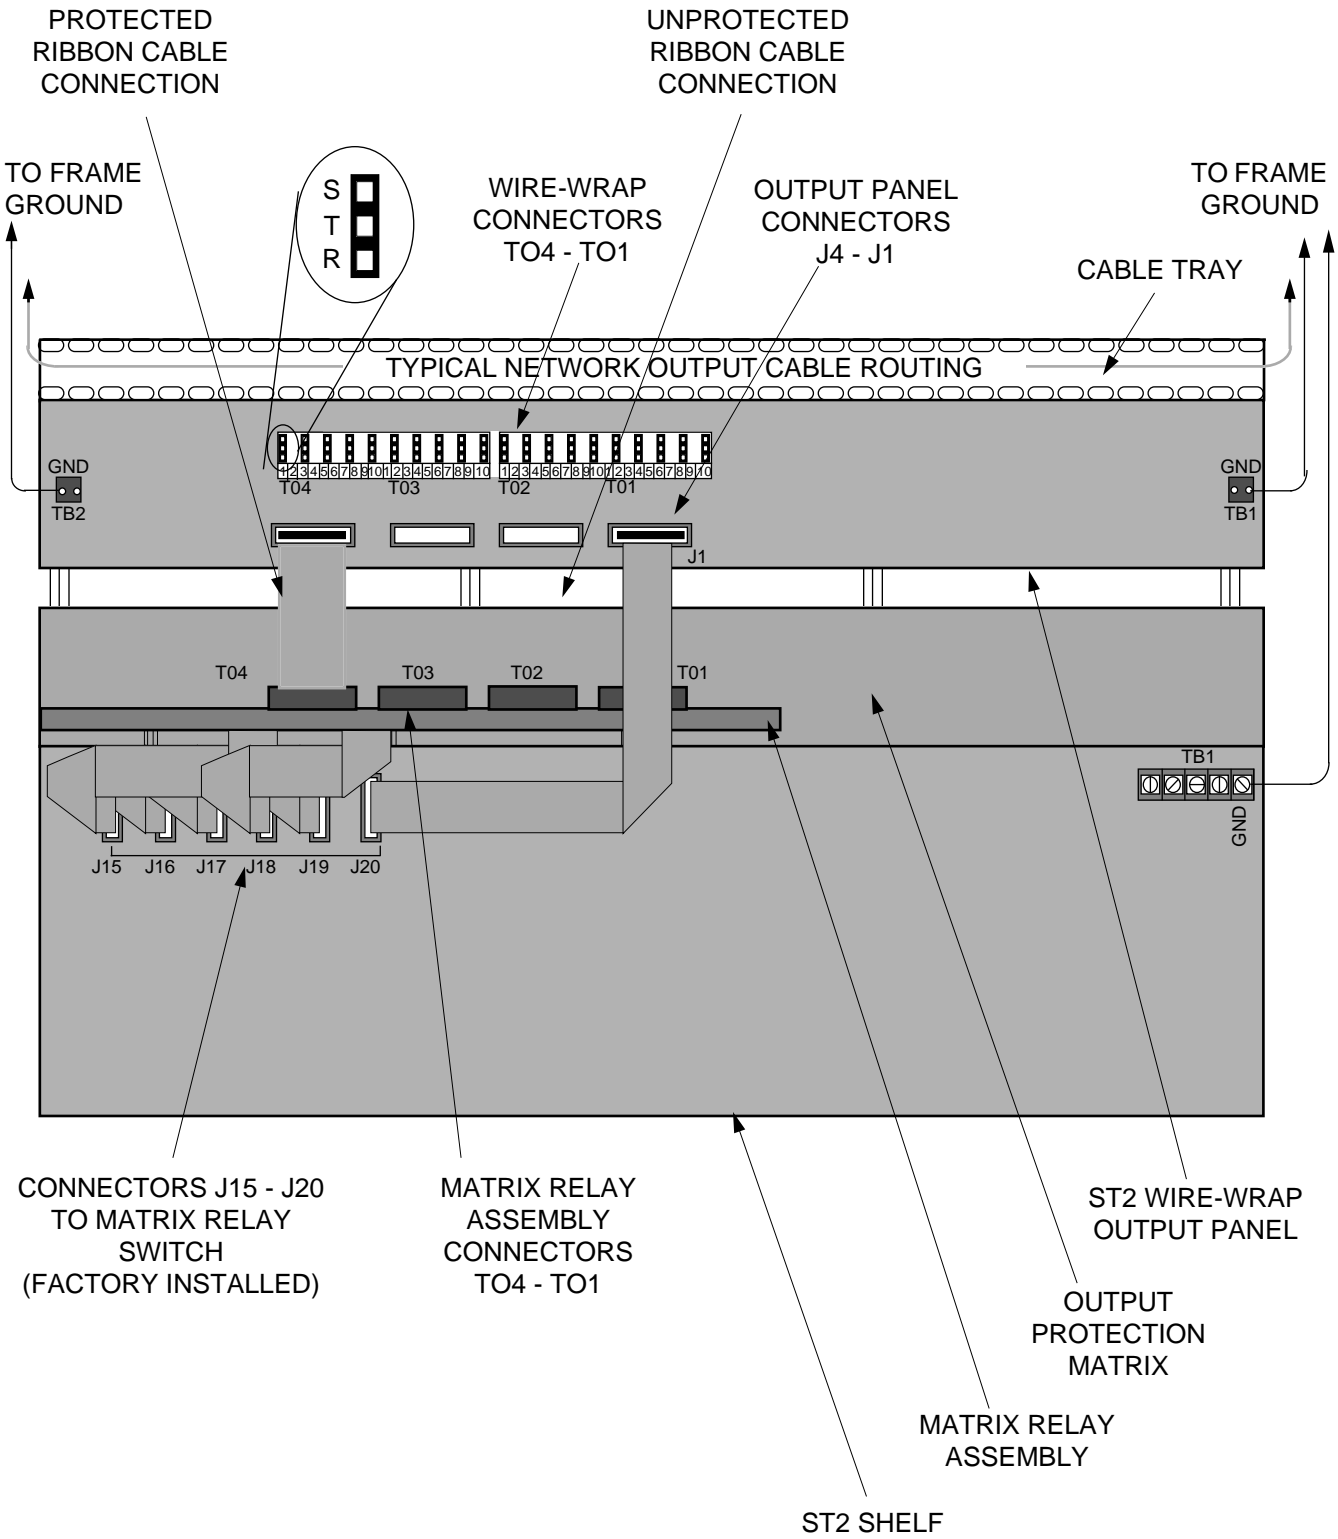
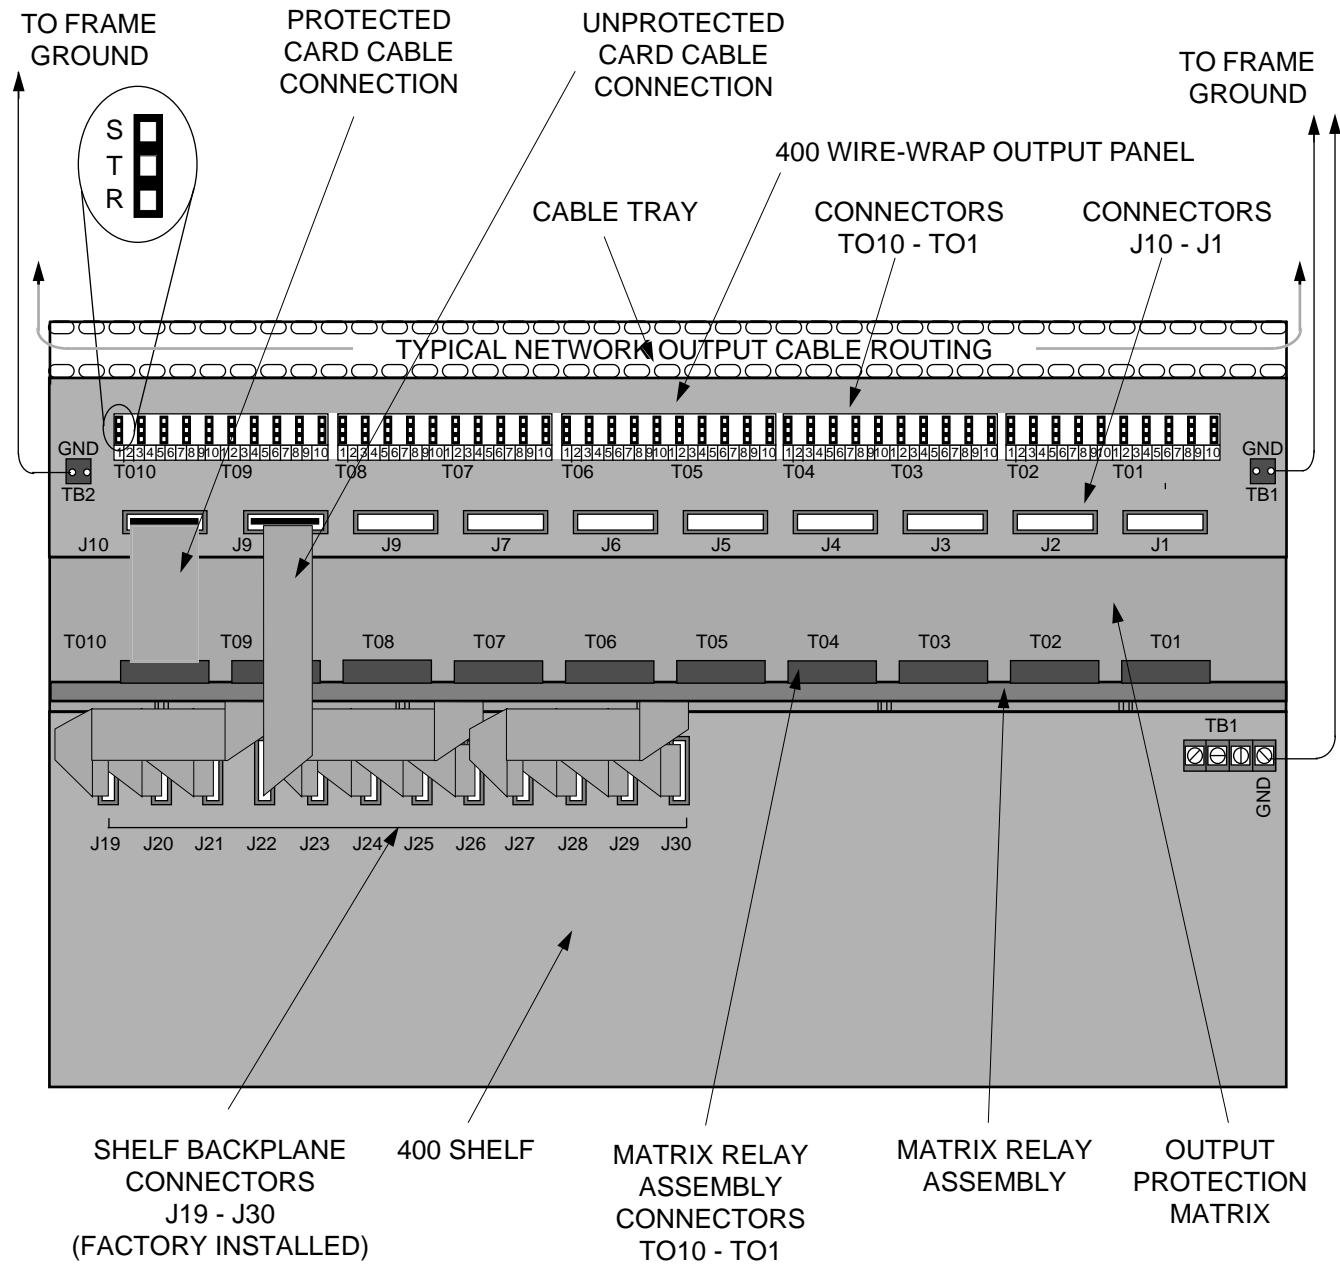
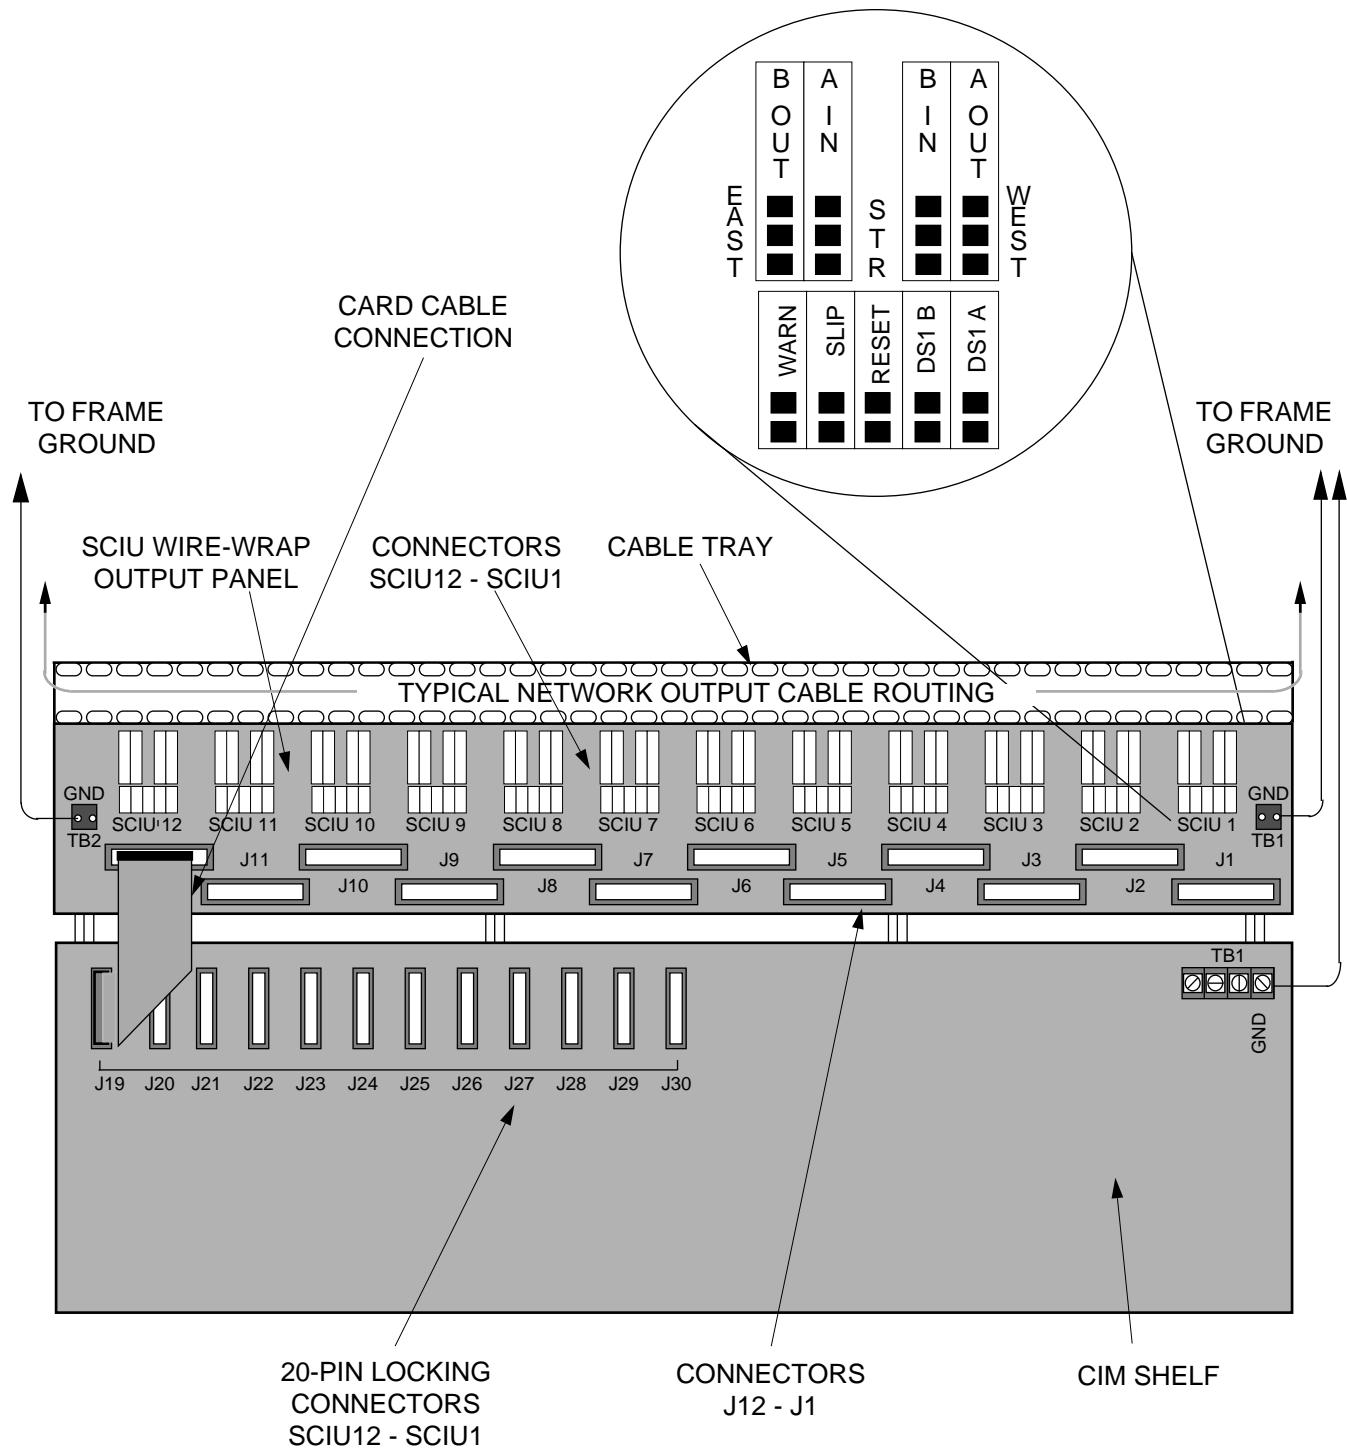

Figure 4. ST2 Wire-wrap Output Panel Cabling (Rear View)
Figure 5. 400 Wire-wrap Output Panel Cabling (Rear View)
Figure 6. CIM Wire-wrap Output Panel Cabling (Rear View)
- a. **ST2 Shelf:** If using protected cards (TOxA), connect TO1 through TO4 on the rear of the Matrix Relay Assembly to J1 through J4 on the rear of the output panel as appropriate (Figure 4 and Table A).
If using unprotected cards (SCIU or TOxA), remove and tag existing ribbon cables from J15 to J20 on the shelf backplane and connect new ribbon cables directly to J1 through J4 on the first output panel and J1 and J2 on the second output panel as appropriate (refer to Figure 4 and Table B).
- b. **400 Shelf:** If using protected cards (TOxA), connect TO1 through TO10 on the rear of the Matrix Relay Assembly to J1 through J10 on the rear of the output panel (Figure 5 and Table C).
If using unprotected cards (SCIU or TOxA), remove and tag existing ribbon cables from J19 to J30 on the shelf backplane and connect new ribbon cables directly to J1 through J10 on the output panel and J1 and J2 on the second output panel as appropriate (refer to Figure 5 and Table D).
- c. **CIM Shelf:** Connect the 20-pin locking connectors of SCIU 1 through SCIU 12 on the master shelf backplane to the corresponding connectors on the rear of the output panel (Figure 6 and Table E).
- 2. Use two separate 16 AWG stranded wires to connect TB1 and TB2 (GND) on the rear of the output panel to rack frame ground (see Figure 4, Figure 5, and Figure 6). To do this, perform one of the following: